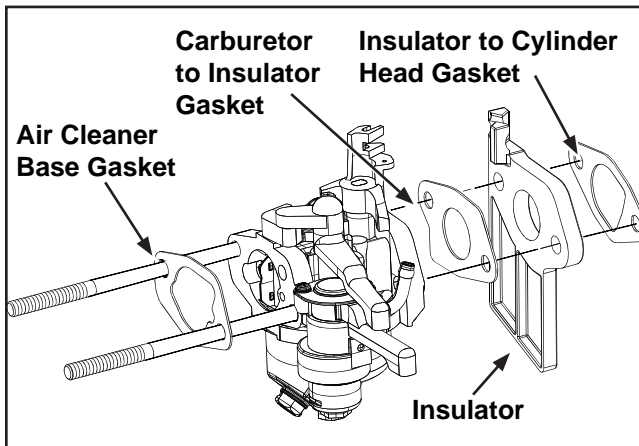

Figure 5-10. Carburetor Gaskets.
6. Inspect the carburetor to insulator gasket, insulator, and insulator to cylinder head gasket, and replace as needed. See Figure 5-10.